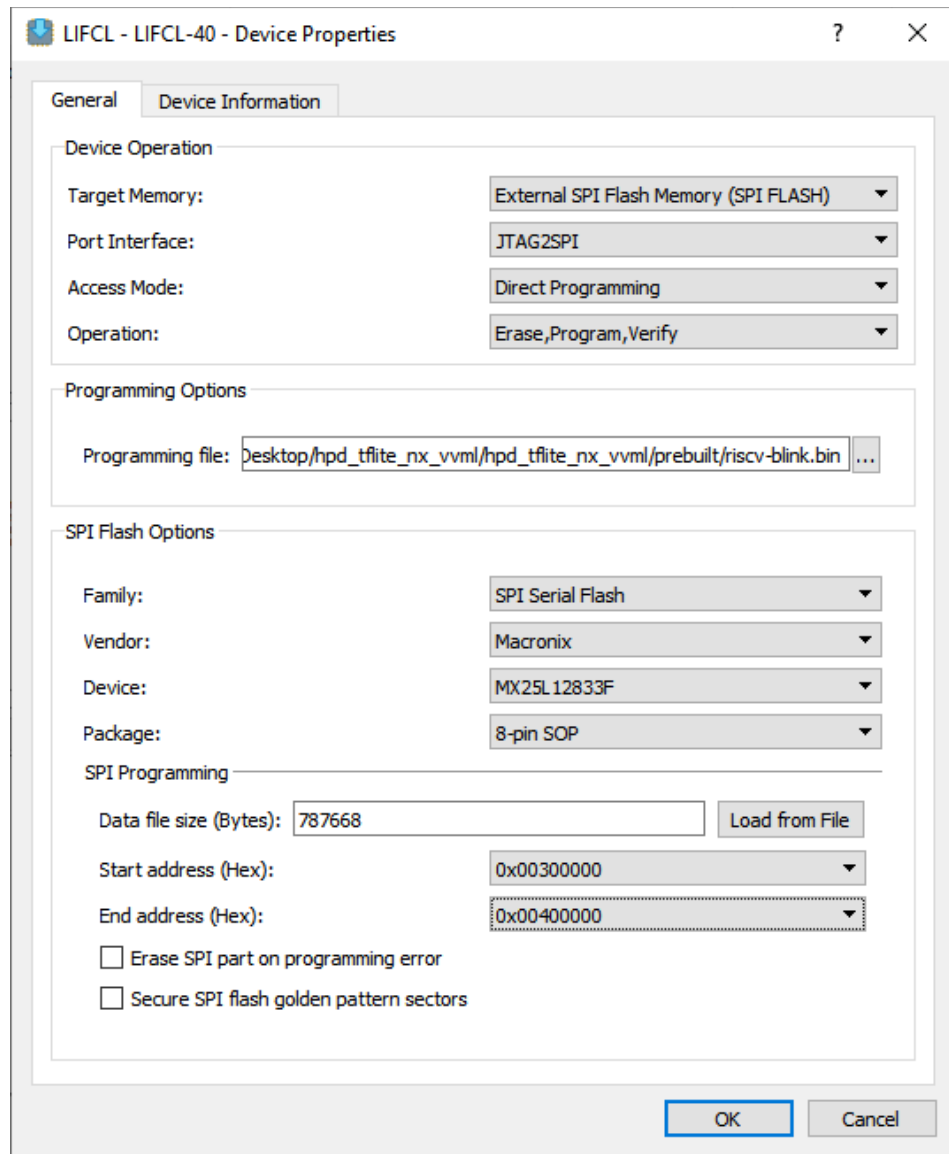

Figure 4.7. Radiant Programmer – Device Properties to Flash Bin File
- c. For **SPI Flash Options**, make the selections as shown in Figure 4.7.